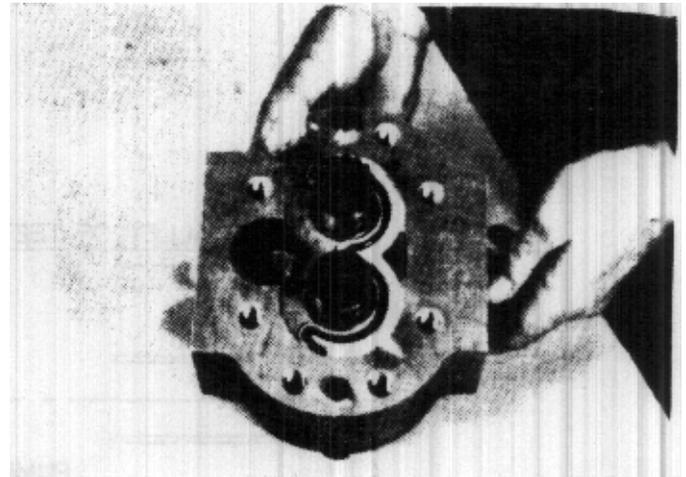

FIGURE 58
30. Install the isolation plate (10) with its square edges on the suction port side. Install back-up ring (14), o-ring (12), and retainer (13) on the discharge side. (Figure 58)